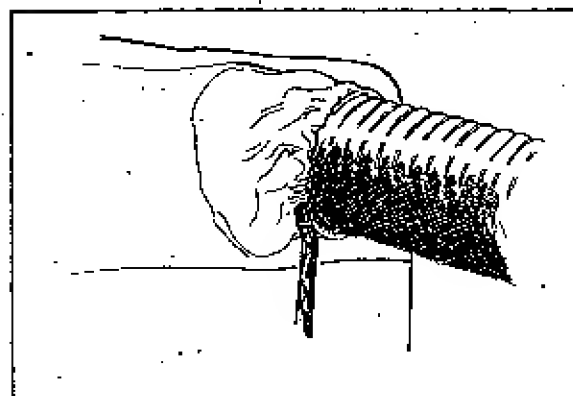

FIGURE 15
5. Secure one end of the smaller hose at the exhaust hole on the top of the blower housing. Position the other end through the canvas sleeve at the upper front of cart enclosure, and secure it in place by means of the strap and buckle. (Figure 15).